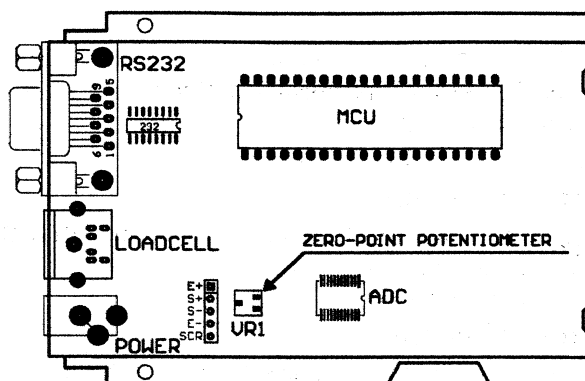

Figure 5.1 Zero Point Potentiometer Location
2. ADC increase for full capacity (NFS) can be made by loading the weight (W) on the platform and the ADC increase for W weight is Nw. The ADC increase for full capacity WFS is $(NFS) = (Nw) \times (WFS) / W$.
- 2a. It is possible a negative value will be displayed due to an error from the loadcell(s) or the position of the zero-point potentiometer on PCB. However, the software only deals with positive values. In this case the position of zero-point potentiometer will need to be adjusted to make the ADC data will be positive value and larger than $(Zp\% + Zk\%) \times NFS$. Normally the indicator is factory-calibrated and adjustment is not necessary. Refer to Figure 5.1 for the zero point potentiometer location. Decrease ADC data by rotating clockwise, and increase ADC data by rotating counter-clockwise.